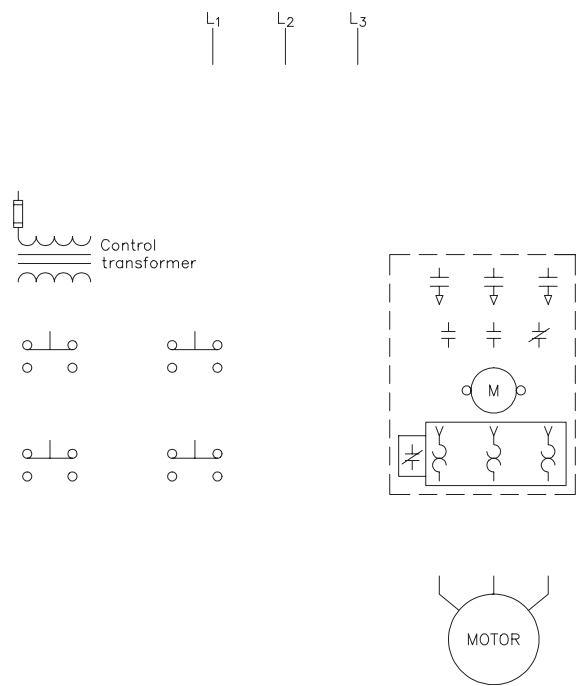
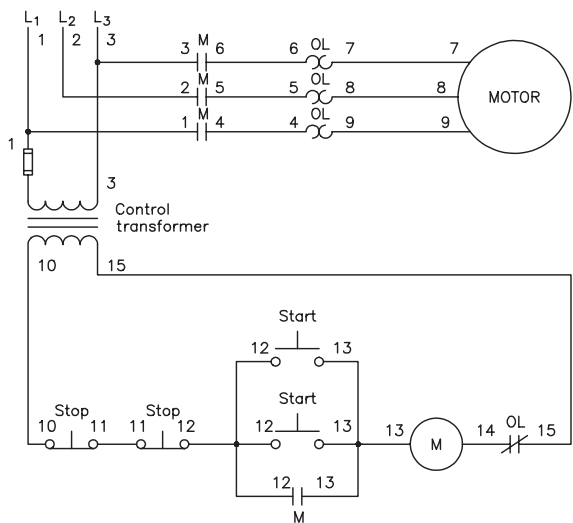
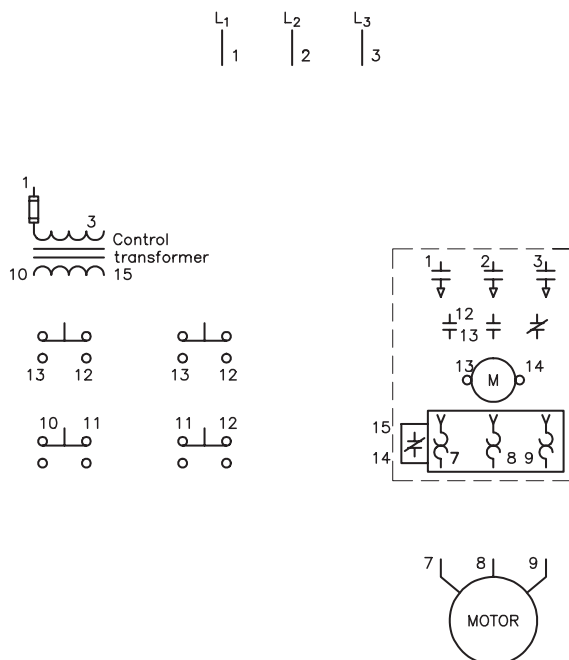

Figure 27-3 Components needed to produce a wiring diagram.
Figure 27-4 Numbering the schematic diagram.
Figure 27-5 Numbering the components.
Now that the circuit logic has been developed in the form of a schematic diagram, a wiring diagram will be drawn from the schematic. The components needed to connect this circuit are shown in Figure 27-3. Following the same procedure discussed in Experiment 1, wire numbers will be placed on the schematic diagram (Figure 27-4). After wire numbers are placed on the schematic, corresponding numbers will be placed on the control components (Figure 27-5).
1. Using the schematic in Figure 27-4 or the diagram with numbered components in Figure 27-5, connect the circuit in the laboratory by connecting all like numbers together.